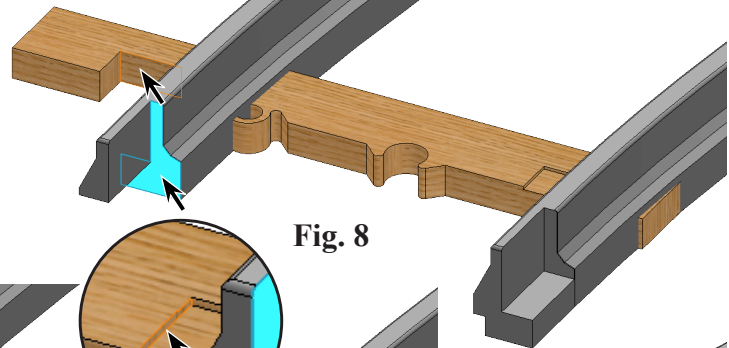

Fig. 8
Step 4. Click **front face of cut** in right hand (passenger's side) **Rail** and **front face of notch cut** in **End Tie**, **Fig. 8**.